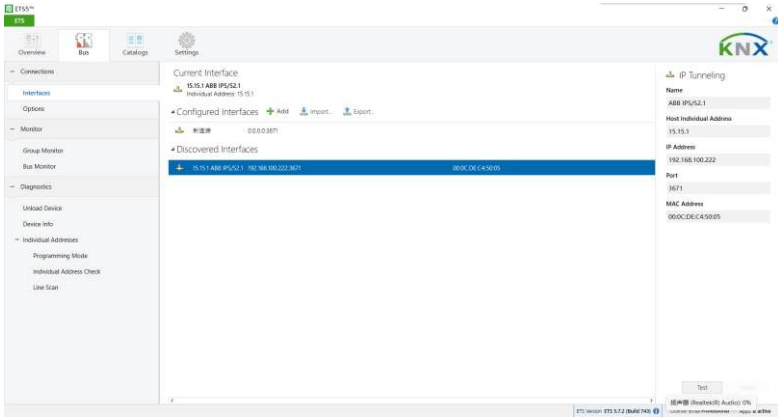

Figure 17
2.4. Creat project, here we take KNX IP interface as an example. Click on “BUS” on the top, then click on “Interfaces” under “Connections” on the left column. The KNX IP interface will be discovered automatically and shown under “Discovered Interfaces” as shown in Figure 17.